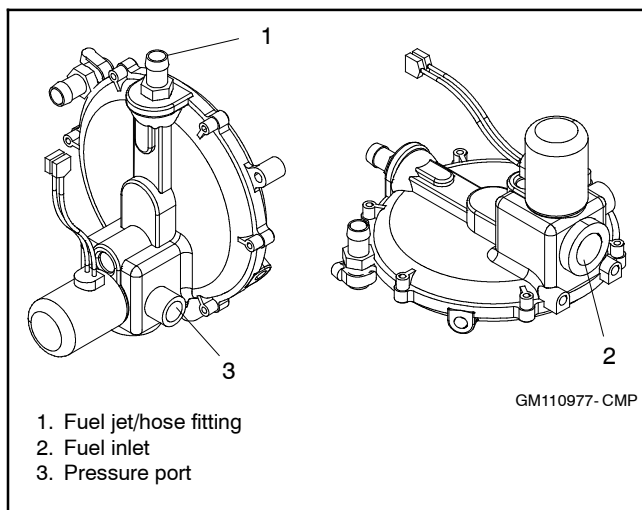

Figure 1-18 Fuel Regulator
6. Remove the NG fuel jet/hose fitting. See Figure 1-18.